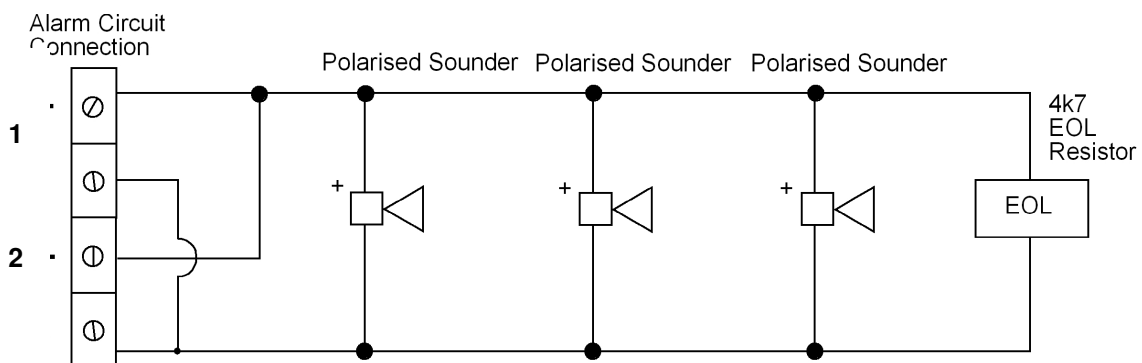

Figure 8.1 Enhanced Alarm Circuit Drive Details
- It is acceptable to connect alarm circuits 1 and 2 in parallel (to obtain a drive rating of 300mA continuous), however the end of line resistor value must be changed to 4k7 Ω 1/2W 5%. This is detailed in figure 8.1